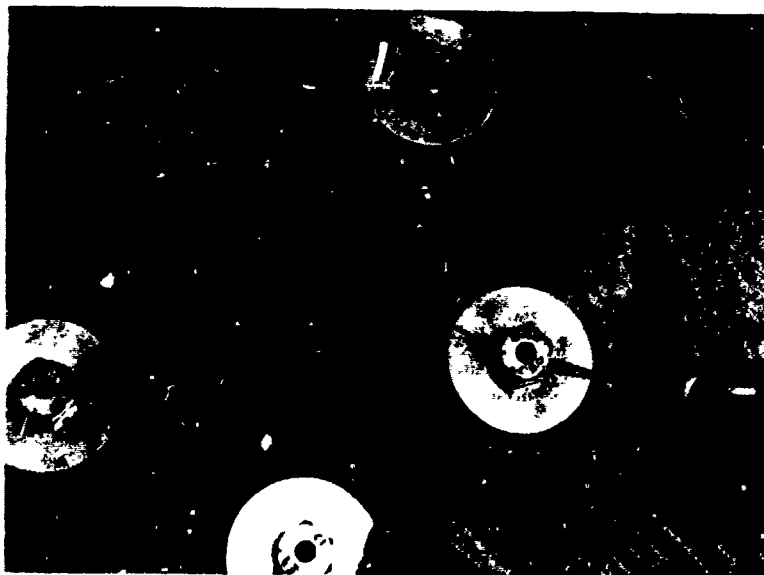

Figure 18. Make sure the Wire is Tight.
16. The twisted wire should now reach the hole in the third bolt head. Insert the top wire through the hole in the bolt. Pull it tight with the safetywire pliers as shown in figure 18.